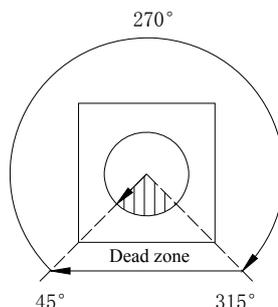

Figure 3.2 The adjusting position of the potentiometer
**Except the rated speed potentiometer (can turn 25 circles, see figure 3.2), other potentiometer of the controller such as Stability, Gain, Idle cannot be turn more than one circle, their largest adjustable angle is  $270^\circ$ , it is about from 7'clock to 4'clock by clock direction. When you are setting the parameter, please don't turn it over this range, otherwise the potentiometer will be damaged and result in the major failure such as the engine stop, instability and over speed. All of the above potentiometers are the precision electron device, please adjust slowly by the special tools to avoid the man-made sabotage.**